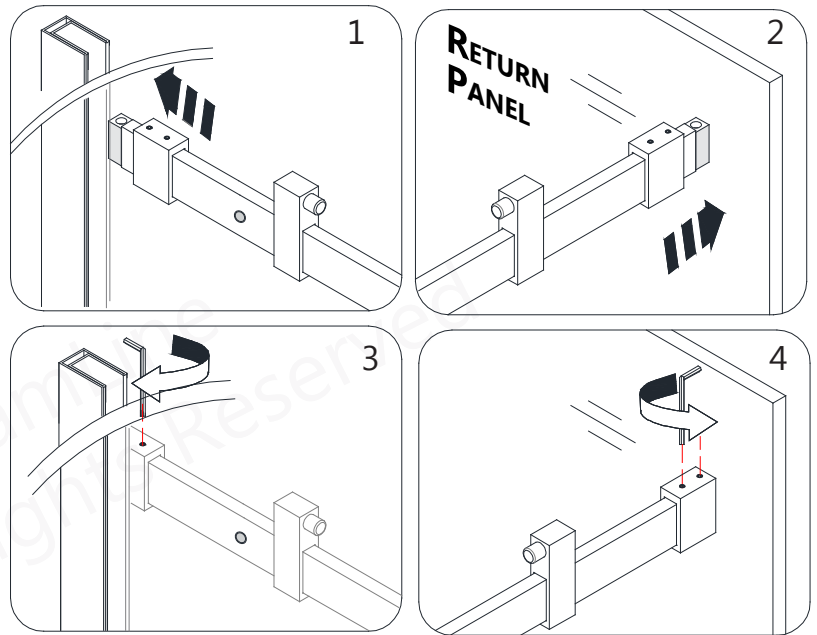

Fig 25
25. Align the panel side **Guide Rail (#04)** end with the installed **Guide Rail Wall Bracket (#6b)**. Slide the **Guide Rail Bracket (#6a)** over the **Guide Rail Wall Bracket (#6b)** and tighten the set screws. **(Fig 25)**